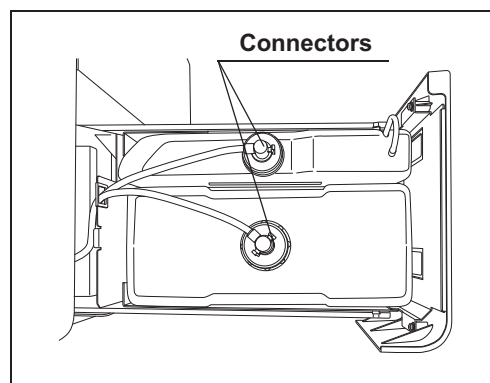

Figure 9.1
- 8** Turn the connectors to correct the orientations of the tubes as shown Figure 9.1.